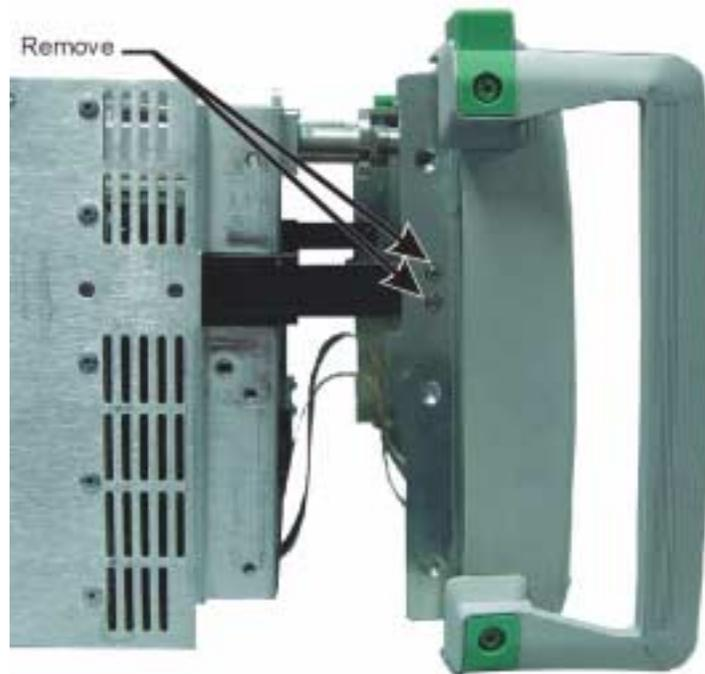

Figure 6-8. Front Panel Slide Rails
- Step 5.** If the front panel is to be completely removed, remove the two screws that attach the front panel to the slide rails, Figure 6-8 above.